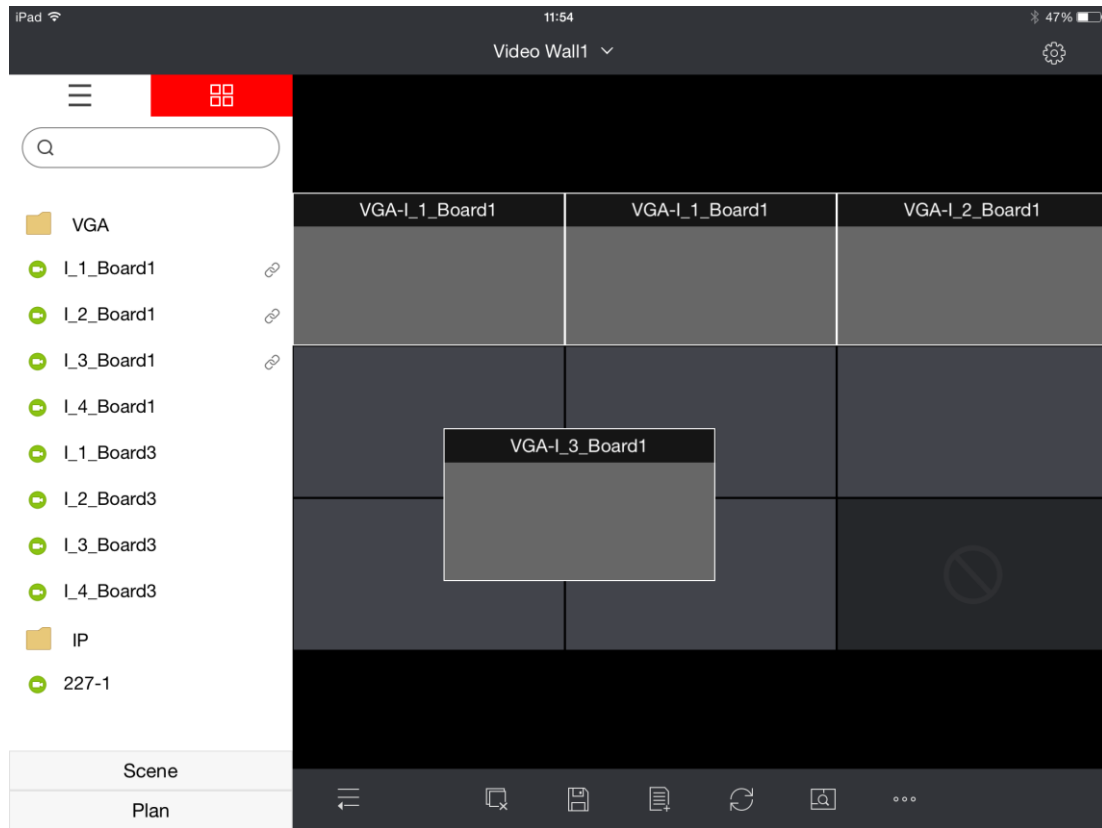
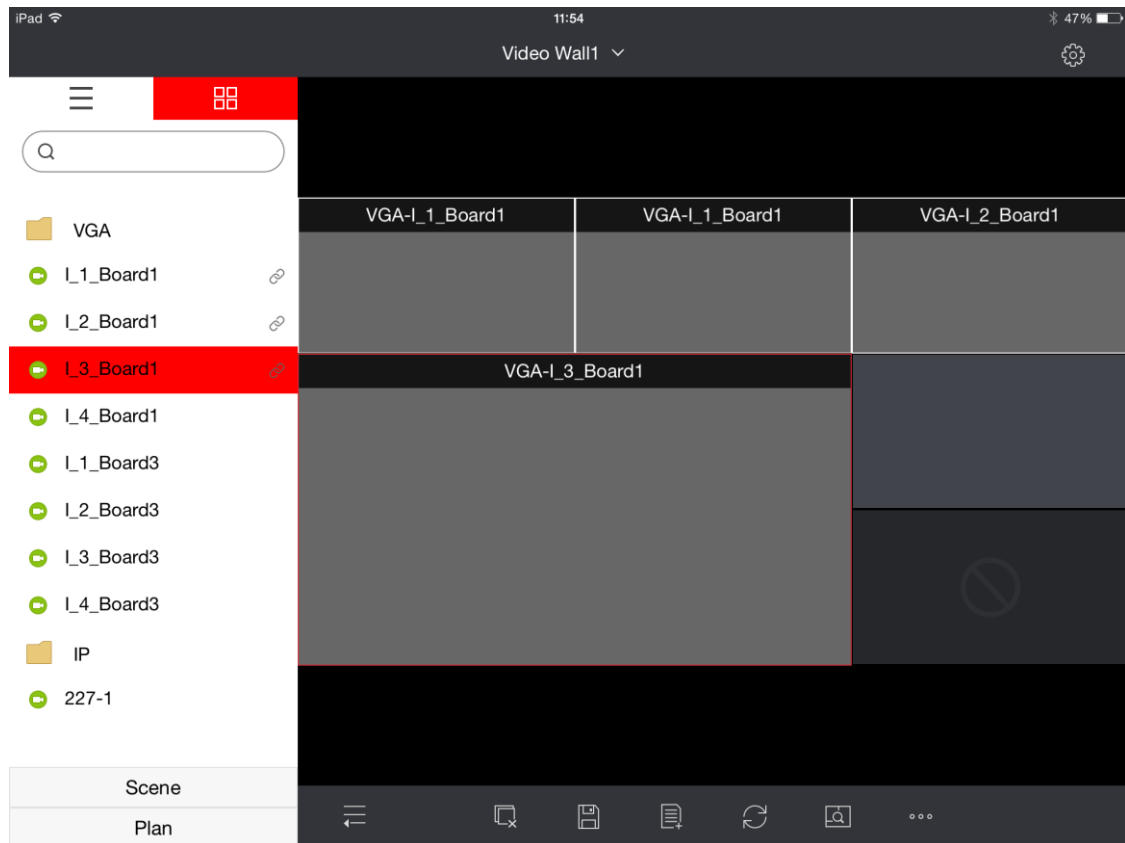

Figure 7-3 Enlarge a Window (1)
Figure 7-4 Enlarge a Window (2)
- When a window spans across multiple screens (as shown in Figure 7-3), double-click it. Then the window will overspread the screens it spans across (as shown in Figure 7-4).